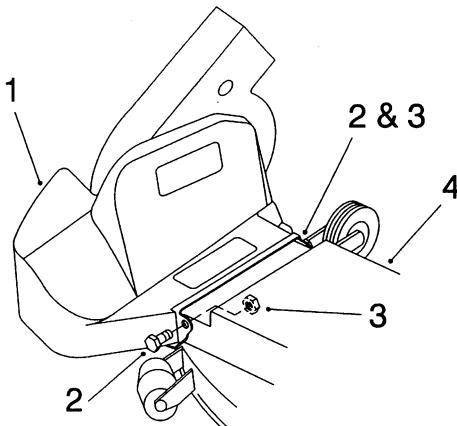

Figure 8
3. Install the **blower** belt cover using two 1/4" x 5/8" hex-head bolts and 1/4" nylon lock nuts (Fig. 8). Tighten the nuts until you feel a slight drag on the cover when you rotate it. The cover must close freely.